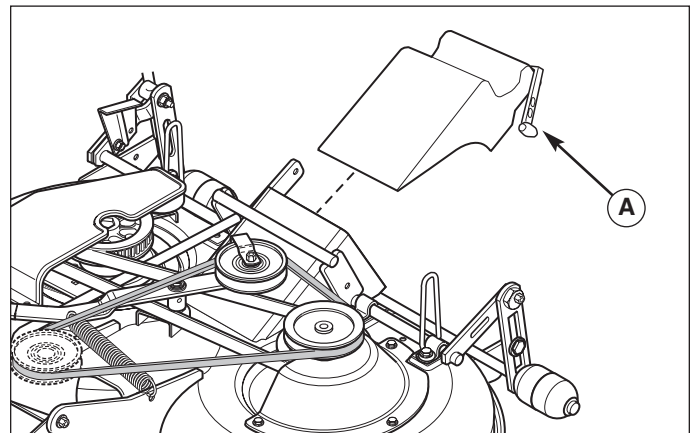

Figure 6. Mulch Plug
4. Insert the plug into the deck discharge. Secure with the rubber strap (A, Figure 6).